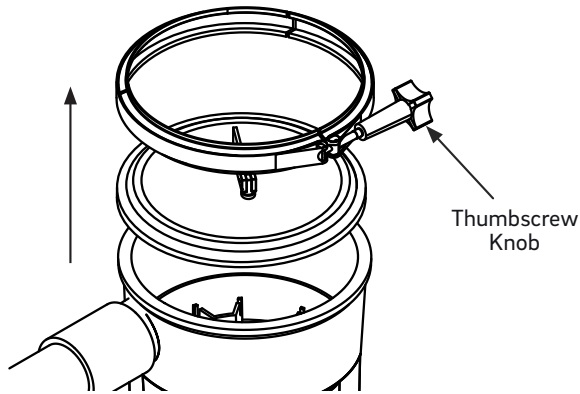

Figure 4
2. Loosen the thumbscrew knob (Figure 4) and remove the band clamp from the Wave valve.